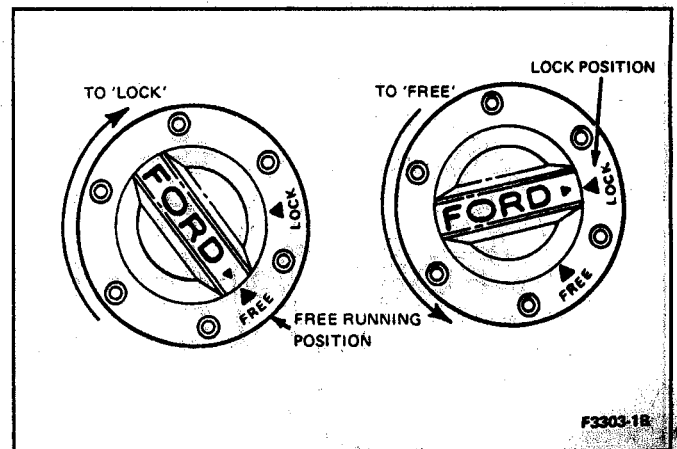

FIG. 1 Four Wheel Drive Wheel Hubs—Manual Locking Hubs
(Refer to Fig. 1).
1. To remove hub lock, first separate cap assembly from body assembly by removing the six (6) socket head capscrews from the cap assembly and slip apart (Fig. 1).